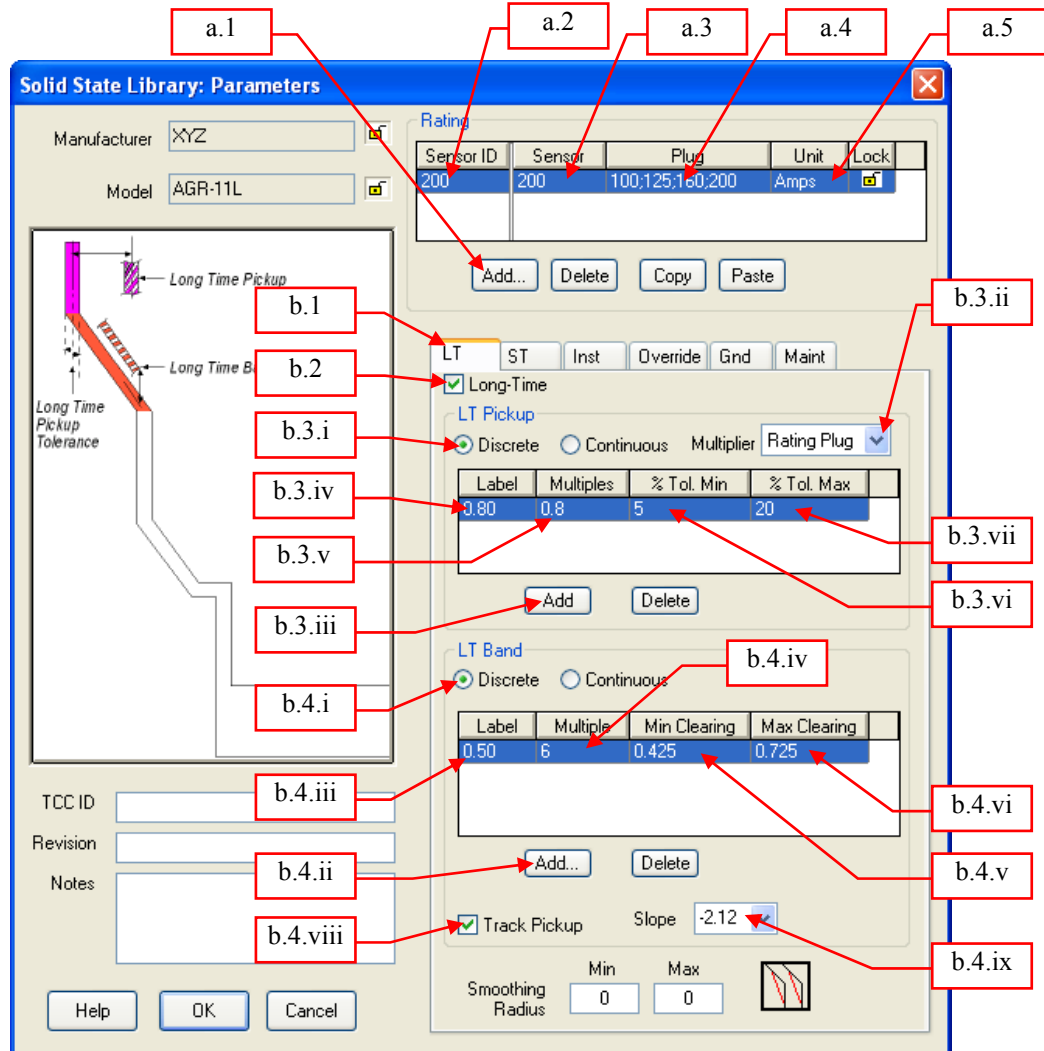

Fig. 6
- a. “Rating” Frame (See Fig. 6)
- b. “LT” tab (See Fig. 6)